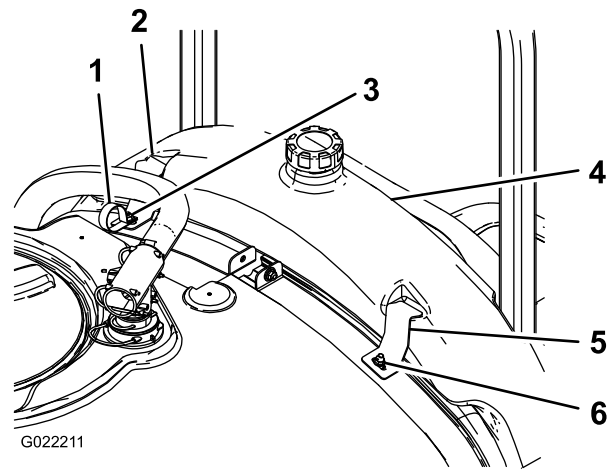

**Figure 4**
1. Install the bulk head fitting onto the rinse tank (Figure 4).